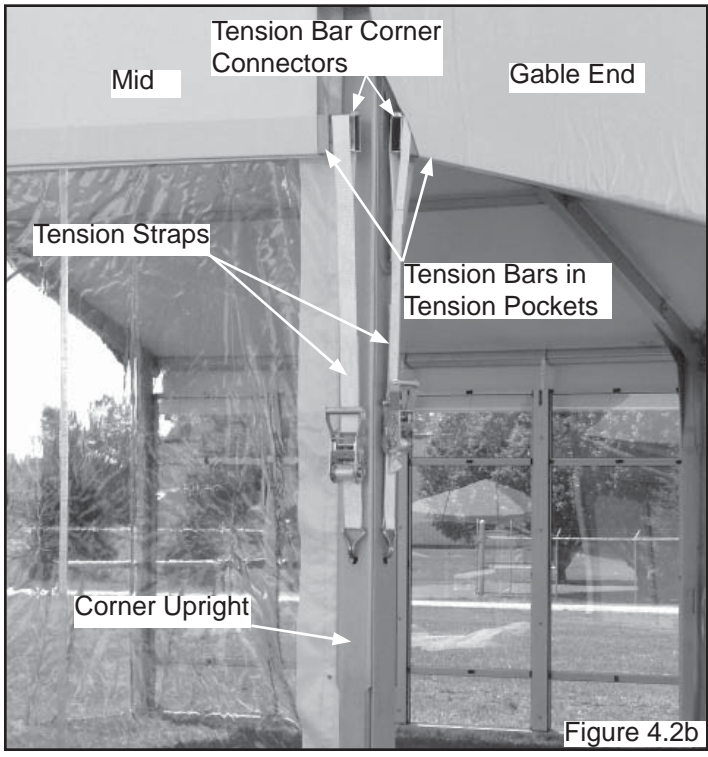

Figure 4.2b
- 4.2.3 Insert tension bars into tension pocket at bottom of gable end. Insert tension bar connector between tension bars and through tension strap loop. Insert tension bar corner connectors at corners. See Figure 4.2b. Tension fabric until it is tight. Make sure the bottom pocket line on ends are level. Add and/or release tension as necessary to adjust.